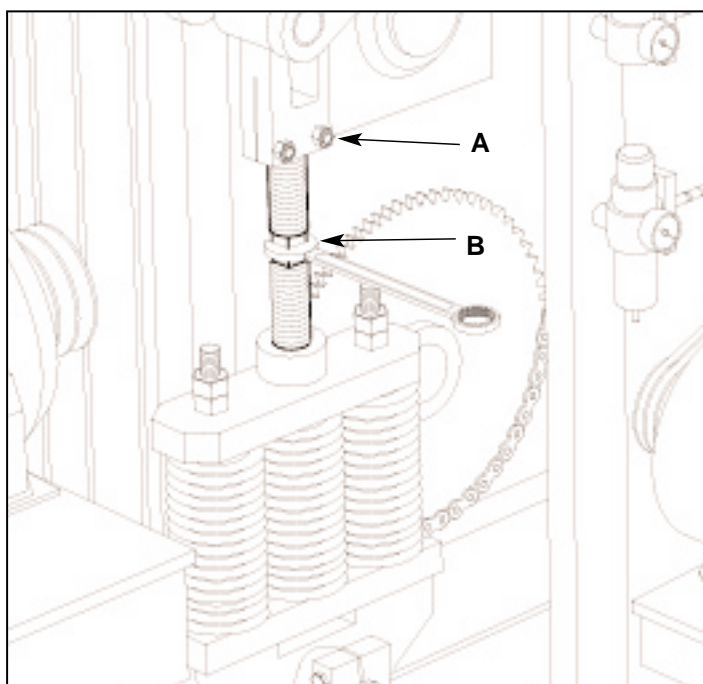

Figure 5.18 PALLET RECEIVER LINK
- 5.5.4 If the dimension on each side is not approximately 5/8" [16mm], adjustment must be made using the pallet receiver link rods (B) (see figure 5.18, next page), after loosening nut (A) (see figure 5.18).
5.5.8 If the dimension on each side is not 5/8" [16mm], adjustment must be made using the pallet receiver link rods (B) (see figure 5.18), after loosening nut (A) (see figure 5.18).
5.5.11 Recheck level of mold and adjust following steps 5.5.3 to 5.5.5 until mold is perfectly levelled. Tighten nut (A) (see figure 5.18).